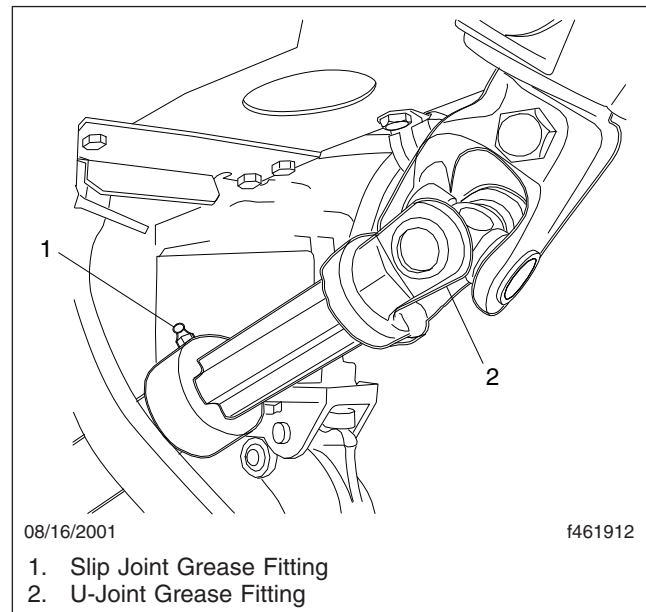

Fig. 6, Steering Shaft, Inside the Cab
6. Using a pressure gun, apply clean grease at both grease fittings until old grease is forced out of the seals. Use multipurpose chassis grease NLGI Grade 2 (8% 12-hydroxy lithium stearate grease) or NLGI Grade 1 (6% 12-hydroxy lithium stearate grease); Grade 2 is preferred. See **Fig. 6**.